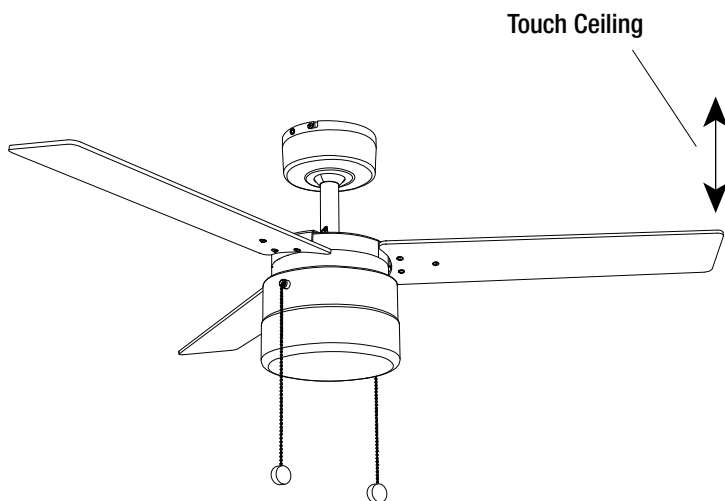

Figure 12
- Most fan wobble problems are caused when blade levels are unequal. Check this level by measuring the distance from the tip of one blade to the ceiling as shown in Figure 12. Rotate the fan until the next blade is positioned in the same place as the previous blade and measure again. Repeat for each blade. Measurements should be within 1/8 in.